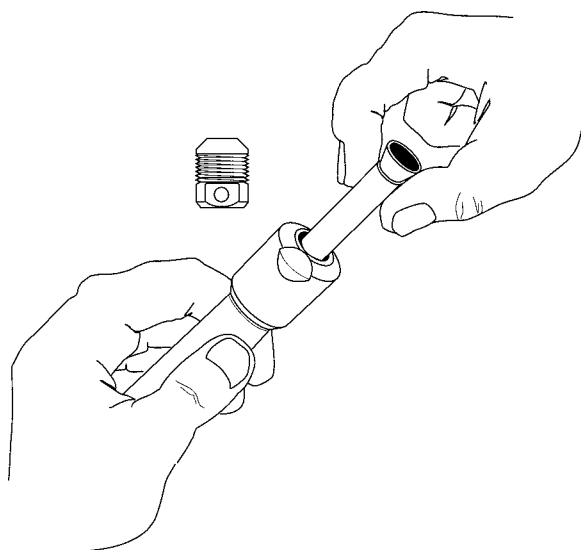

Figure 14. Insert replacement fuse link.
Step 7 - Insert replacement fuse link into fuse cartridge (see Figure 14).